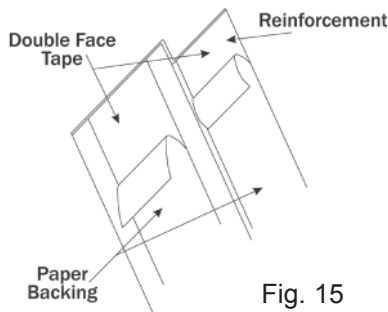
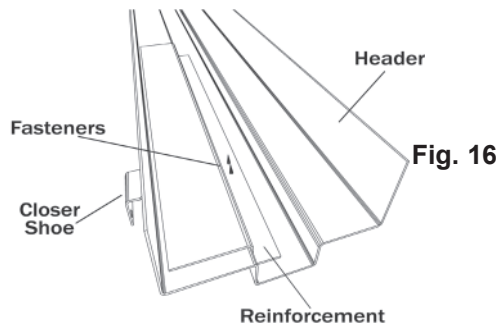

Fig. 15
Fig. 16
- 2 Expose double face tape by removing paper backing on two strips of tape (Fig. 15) and press into position to secure the sleeve to the header (Fig. 16).